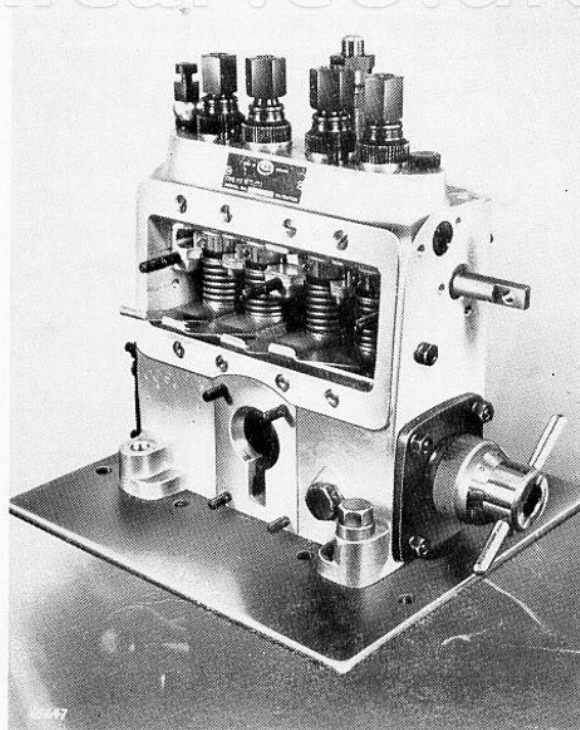

FIG. 14. CHECKING CAMSHAFT END FLOAT USING GAUGE 7044/634—TYPICAL ILLUSTRATION
29. Check the camshaft end float using gauge C.A.V. Part No. 7044/634 (Fig. 14). End float must be 0.05 to 0.1 mm. with either ball or tapered roller bearings and 0.1 to 0.2 mm. when parallel roller bearings are fitted. The amount of end float is controlled by the thickness of the shims. Turn camshaft by hand several times to ensure that it is free.